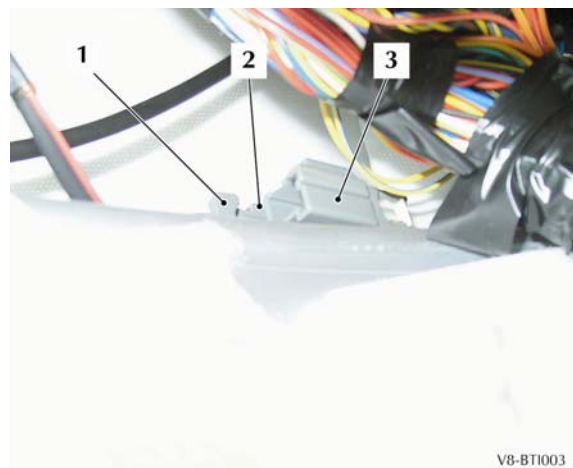

Figure 3
19. Pull the carpet away from the A-post position in the left-side footwell until you can see the two grey microphone sockets (Items 2 and 3) (see Figure 3).
20. Disconnect the microphone plug from the grey socket (item 3) that is identified with the blue tape.